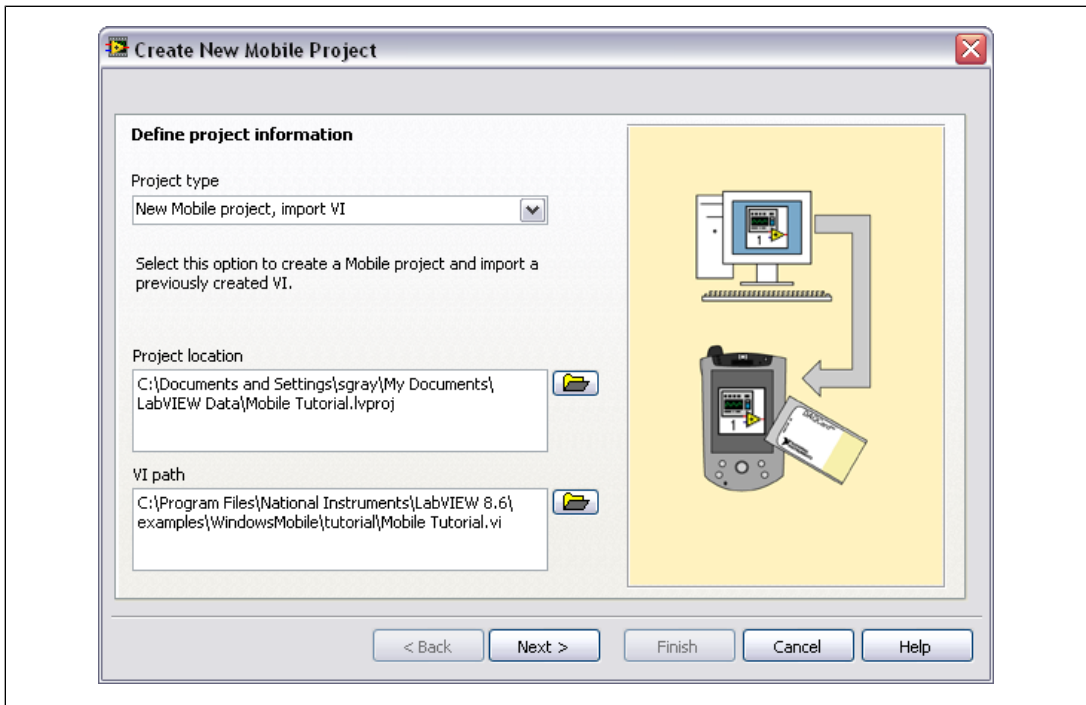

Figure 1. Defining the Project Information
2. Define the project information as shown in Figure 1.